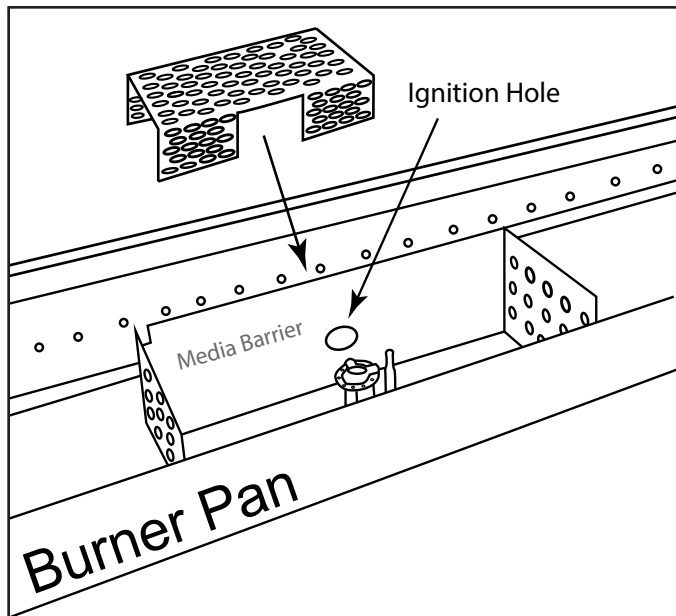

Fig. 30 Installing ignition screen.
Step 21: Install ignition screen (from parts box) overtop of the burner tube with the cutout area centered behind the pilot box ignition hole as shown in Fig. 30. The ignition screen sits on top of the burner tube.